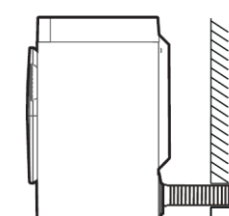

Figure 3
3. Extend the other side straight from the window or wall hole to the outside. The telescopic tube cannot be discounted or extended to the sewer (Figure 3, Figure 4).